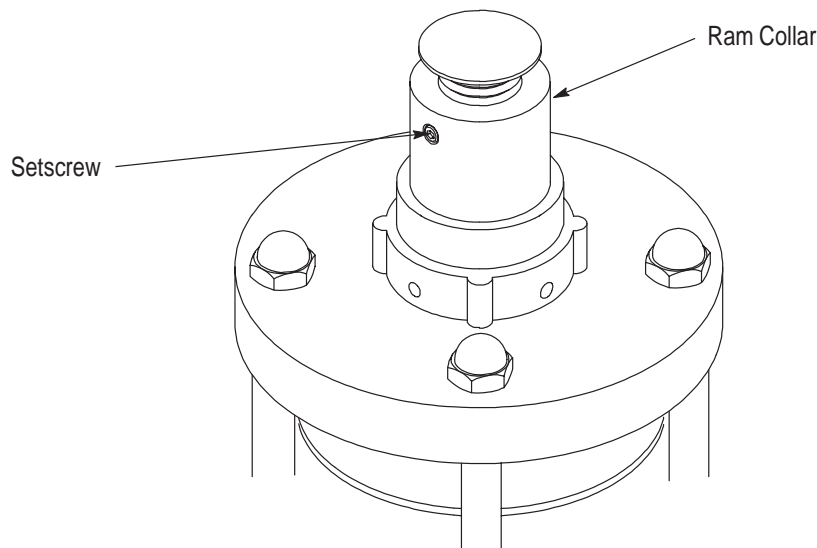

Figure 16
1. Loosen the setscrew located on the side of the ram collar sufficiently to allow the ram collar to rotate. To INCREASE the depth of insertion, turn the ram collar in a COUNTERCLOCKWISE direction. To DECREASE the depth of insertion, turn the collar in a CLOCKWISE direction. See Figure 16.